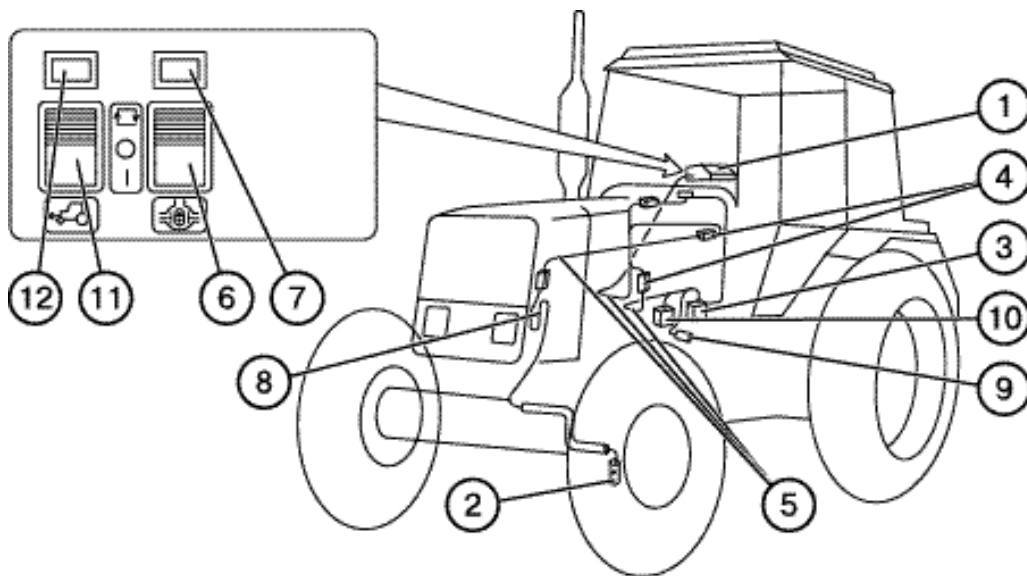

Fig. E-28. Rear axle differential lock-up (DL) and FDA drive control system:
The electro-hydraulic control system of the rear axle (Fig. E-28) consists of the panel (1), automatic control sensor (9) FDA reduction gear, FDA drive clutch control electro-hydraulic distributor (10) located on the right-hand GB cover and connecting cables (5) with terminal blocks (4). The system is supplied with power from the on-board power system via a safety fuse in the fuse box installed in the dashboard. The system is powered after starting the engine. The key (11) of the FDA drive control and the FDA drive engagement indicator lamp (12) are installed on the panel (1) face. The latter is located over the tractor right-hand side control panel.